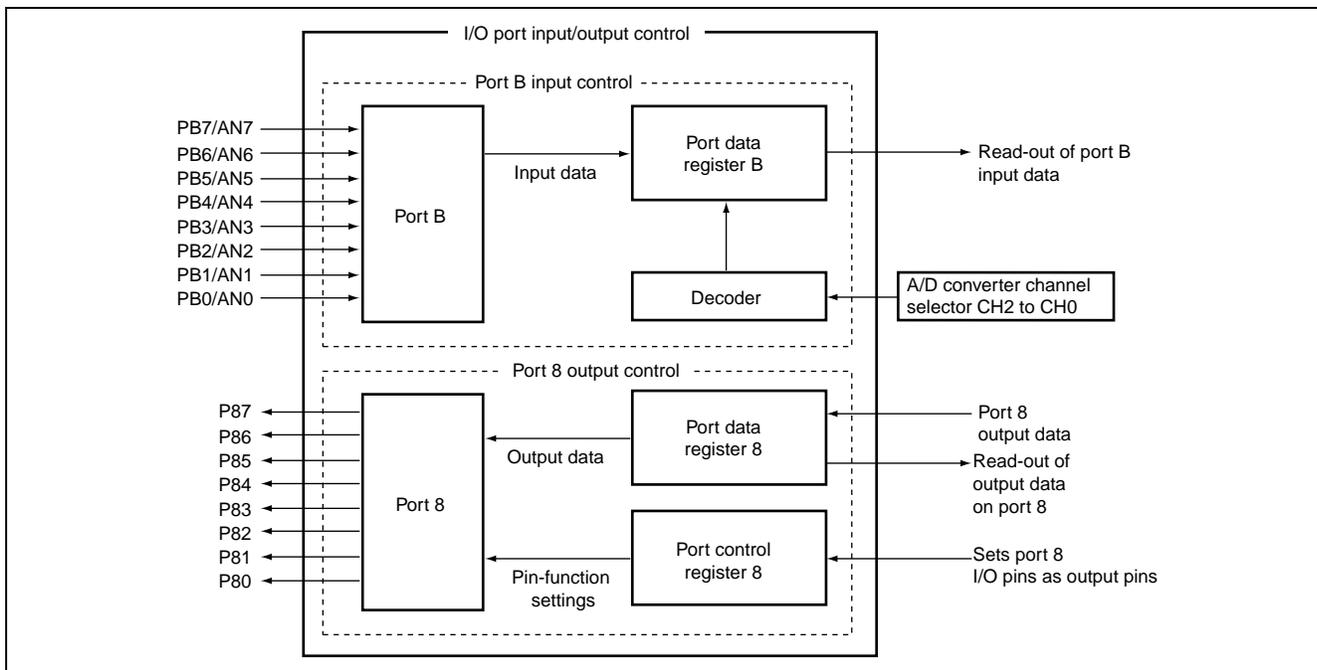

Figure 2.1 Port B Input Function and Port 8 I/O Function
1) Figure 2.1 is a block diagram of the I/O port. The block diagram is described below.